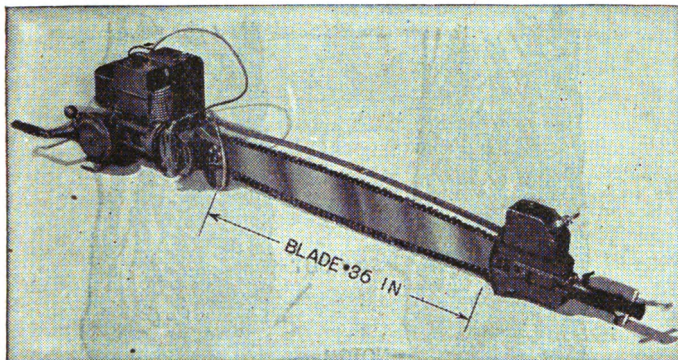

FIGURE 35.—Gasoline-driven chain saw.
■ **10. POWER-DRIVEN TOOLS.**—The power-driven tools used most frequently by the engineer are tools driven by compressed air from the mobile air compressor unit. These tools save much time and labor, and each engineer soldier should know how to use them. The tools most commonly used are clay diggers, wood and rock drills, pavement breakers, hammers, and wood saws. (See figs. 28 to 34, inclusive.) Figure 35 illustrates the gasoline timber saw.